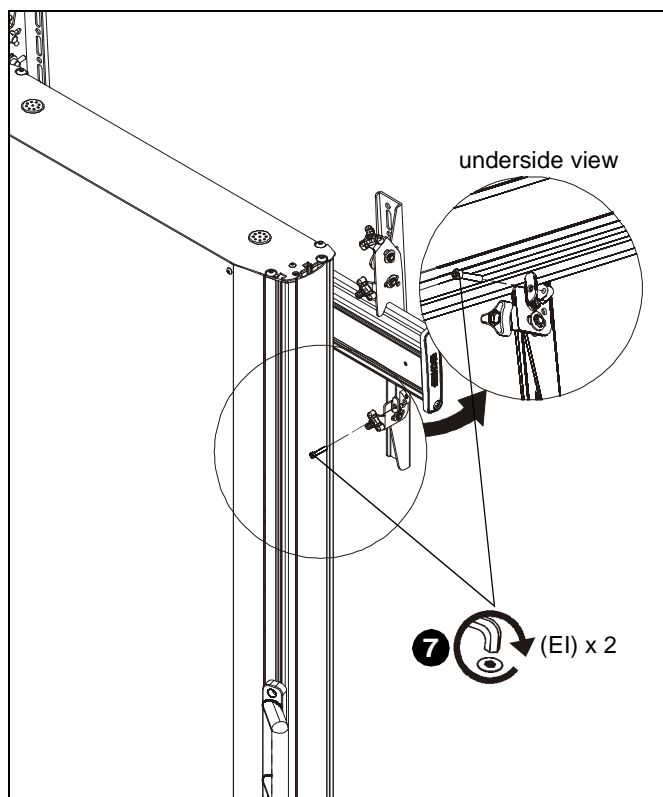

Figure 9
- Hang interface brackets (A and B) to display rails. (See Figure 9)
- Use 1/4-20 x 1 1/4" socket head cap screws (HI) to secure interface brackets (A and B) to rails for each display. Screws must engage through both holes to be fully secured. (See Figure 9)